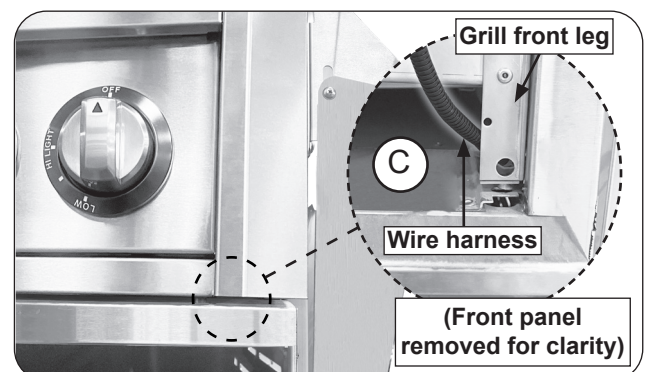

Fig. 10-4 Route wire harness
2. Before inserting the unit completely and if applicable, insert the wire harness into the open cavity on the right side of the cart base. Ensure to route the wire harness on the left side of the grill front leg while inserting (see Fig. 10-4, C). Routing the wire harness on the right side of the grill front leg will cause the wiring to get pinched and damaged.